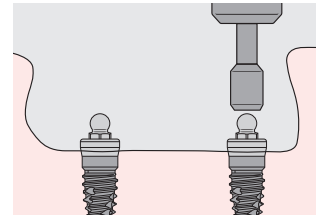

Fig. 4
- (Fig. 4): Torque the Dalbo® Certain® Abutment into the implant using the O-Ring/Dal-Ro driver tip (RAOR1) and torque ratchet set at 20 Ncm. (If the surgeon is only inserting the Dalbo® Certain® Abutment, the existing denture must be relieved accordingly around it.)